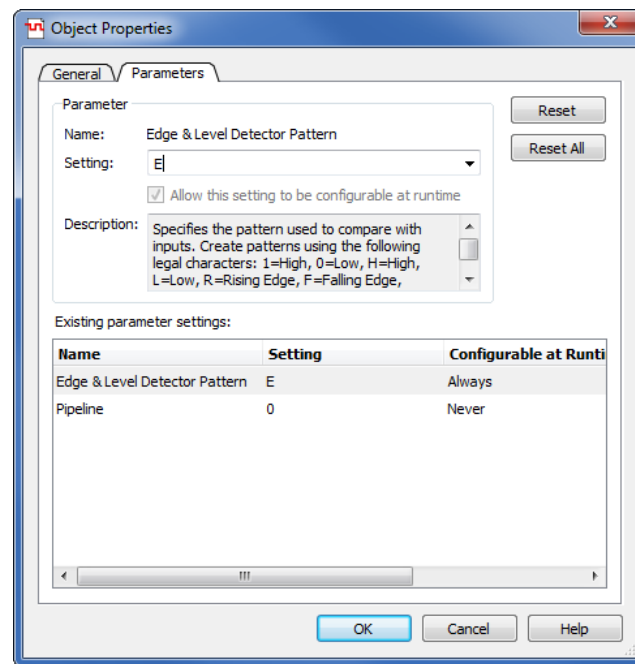

Figure 21. Type E in the setting box so that the function triggers on both rising and falling edges.
7. We now need to set each edge and level detector to sense either a falling edge or a rising edge. Double click one of the edge and level detectors, bringing up the window in Figure 21. Type E in the setting box and then click OK. This will mean that the detector will output 1 whenever there is either a falling edge or a rising edge of its input. Repeat this step for the two remaining edge and level detectors.